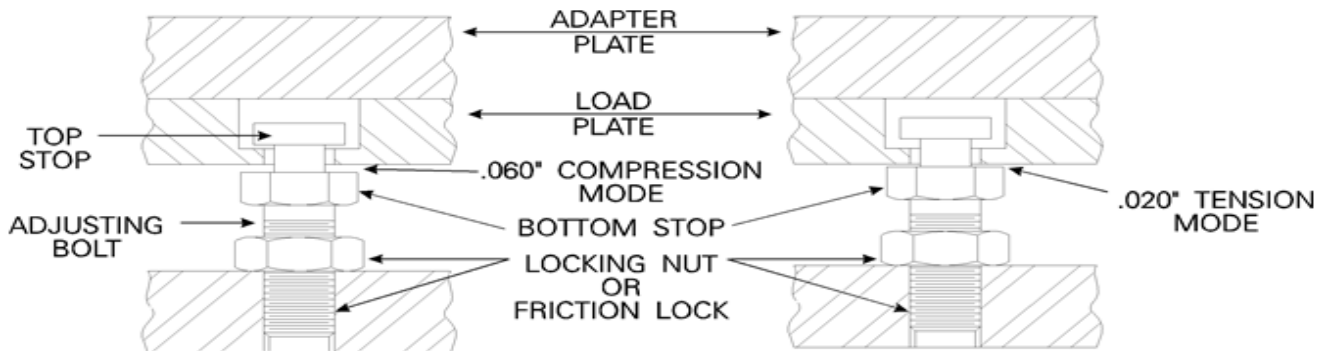

Figure 5
2. Using an open-end wrench and a dial indicator or feeler gauge, adjust the Mechanical Stop for the required clearance between the Load Table and the Mechanical assembly (Refer to Figure 5 & 6). This is accomplished by having the Tare applied and the Load Table not in contact with the Mechanical Stop.